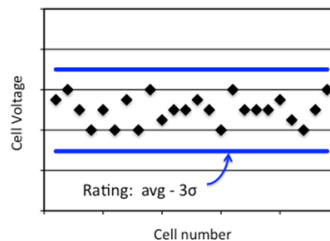

Figure 3. Ratings based on 3 std. deviations
- Cell minimum (average – 3 std. deviations) – Statistically, +/- 3 standard deviations will capture 99.73% of all expected results. If the ratings are based on the average minus 3 std. deviations, then 99.73% of all cells will be greater than the ratings value. Cells that perform below this level are statistical outliers. They should be considered a failure, and they should be replaced. This is the most conservative and clear-cut ratings definition used. See Figure 3.